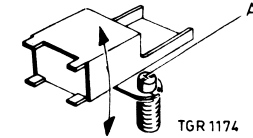

Fig. 4
- Adjust for maximum output voltage with screw A (Fig. 4).